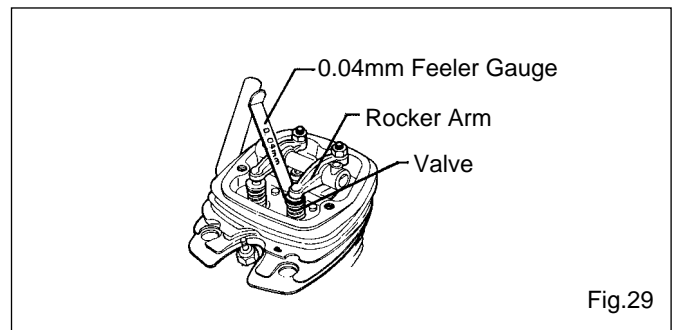

Fig.29
4. The standard valve clearance, on both inlet and exhaust valves, is between 0.04mm and 0.1mm (0.0015-0.004 inch), measured between valve stem and rocker arm. Use the 0.04mm and 0.1mm feeler gauges to check clearances. (See Fig.29.)